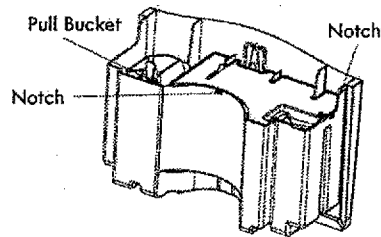

Fig. 2
2. Gently pull at the back and front of the bucket to dislodge the bucket cover from the notches. (Fig. 2)